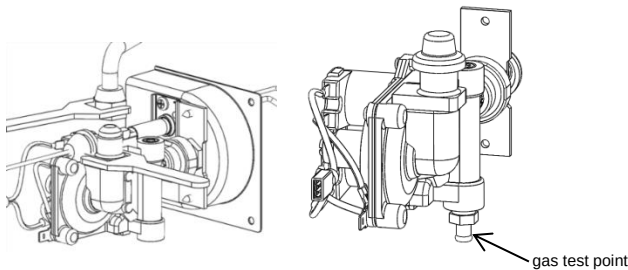

Figure 6
- The gas connection is located on the RHS and beneath the top panel. This connection is a male 3/8" male nipple. See Fig. 6
- A pressure test point is accessible for testing gas press attach gauge to test point shown in see Fig 6